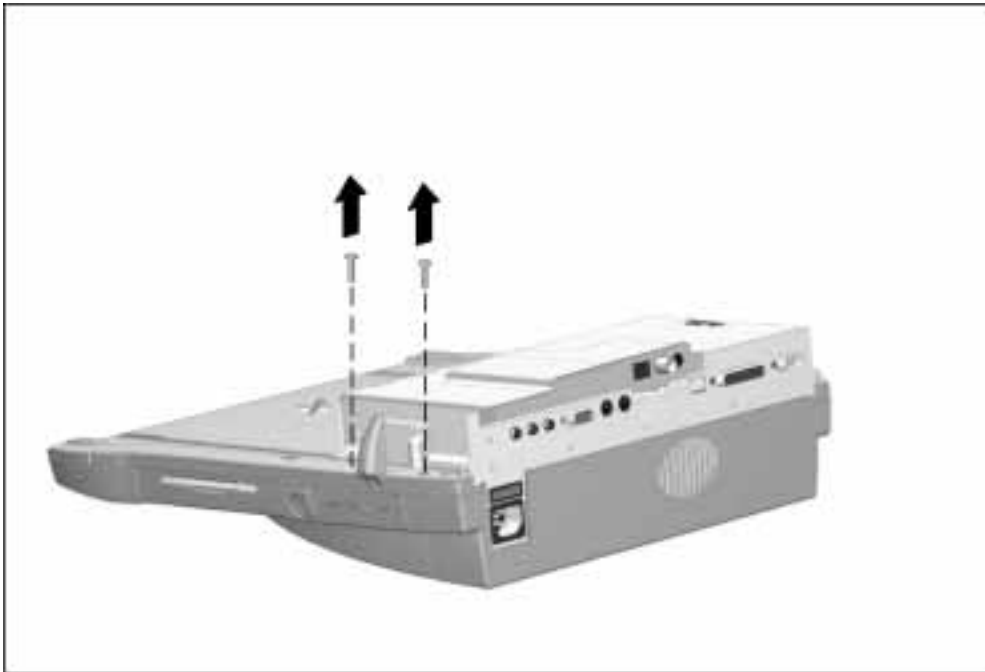

Figure 6-7. Removing the Module Assembly Screws
4. Remove the two screws securing the module assembly to the base assembly (Figure 6-7).